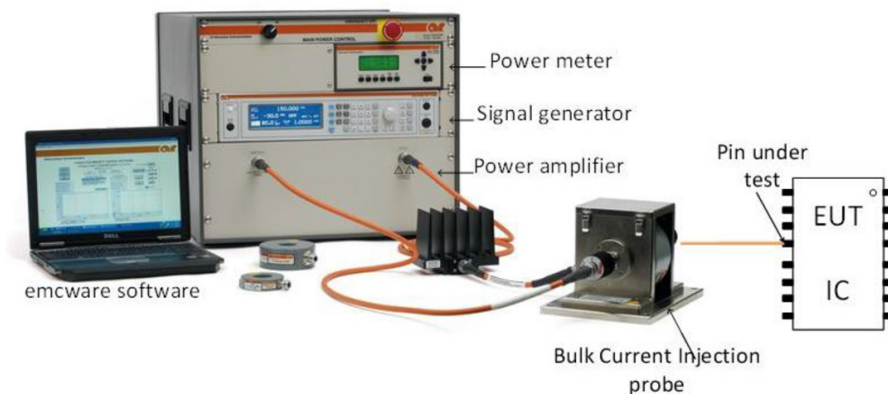

Figure 3: Basic Direct Power Injection (DPI) test-up
The bulk current injection (BCI) and direct power injection (DPI) method have become standard test methods. Because the BCI test uses a current injection probe to inject magnetically coupled electromagnetic (EM) fields, there is a significant difference between the power supplied by the radio frequency (RF) generator and that transferred to the integrated circuit (IC). As mentioned above, DPI testing is another method of EMC characterization of IC components. DPI testing measures the immunity of an integrated circuit as a function of the effective power transmitted to the circuit. However, due to impedance mismatch, most of the RF power delivered by the generator is reflected towards the source, and only a small amount enters the PCB and IC under test. To evaluate the immunity of an IC, the forward power needed to cause malfunction is measured. The malfunction may be classified from A to D according to the performance classes defined in IEC 62132-1. Figure 3 shows a typical DPI test setup.
AR's new U-series, class A, VSWR tolerant, solid-state amplifiers exceed the standards and IC manufacturers' requirements for direct power injection testing. Also, AR offers a wide range of highly linear solid-state, VSWR tolerant class A amplifiers (A and U-Series), which are highly recommended for both BCI and DPI component testing (DPI test set up shown in Figure 3). It should be noted the direct injection of RF disturbance to the IC package is very small and often negligible compared to the disturbance injected through the connected cables(s). Hence, the IEC 62132-5 workbench method is derived from the IEC 61000-4-6 (see ARI app note Conducted Immunity Test System for BCI and TWC Methods of Automotive, Military and Commercial Test Standards from 10 kHz to 3 GHz). The method described assumes that supply and signal cable(s) are attached to an electrically small test board, with dimensions $\leq \lambda / 2$, i.e., 0.15 m at 1 GHz. These connected cables become the dominant antennas; the induced RF disturbance is injected to the test board via these "antennas." Using this concept, the circuit board layout's RF performance, the IC supply decoupling, and discrete components (capacitors and inductors) can be measured.